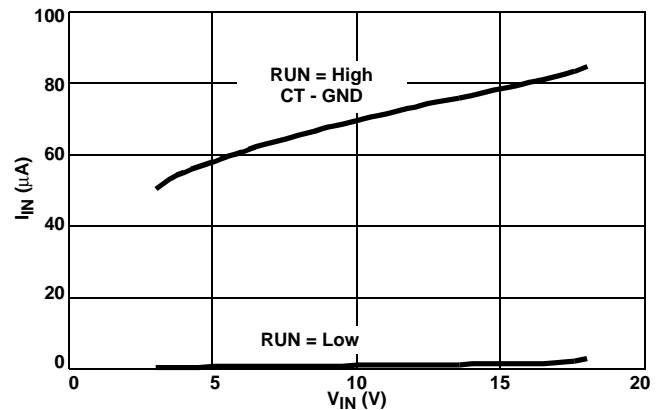

FIGURE 12. BIAS POWER CHARACTERISTICS
The converter efficiency and power dissipation at light load is mainly a function of the bias supplied to the HIP5020. Figure 12 shows the input current as a function of the input voltage for the two states of the RUN signal. I_{IN} is summation of both the current into the V_{IN} and V_{INF} pins. The curve for I_{IN} with the RUN signal High does not include the gate drive power.
- 2) Add the product of the voltage and current from the RUN = High curve in Figure 12.
- 4) Add the product of the voltage and current from the RUN = Low curve in Figure 12.